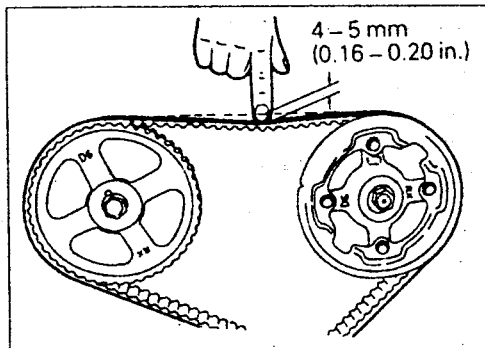

Fig. 15.28. — Checking the timing belt tension.
- Refer to Fig. 15.28 to check the timing belt tension. Use the thumb or index finger and press against the centre of the belt as shown in the illustration. The belt should deflect by the amount shown. If this is not the case, re-tension the belt.
Fit the balance shafts by referring to Fig. 15.28, but note some of the points to be observed: